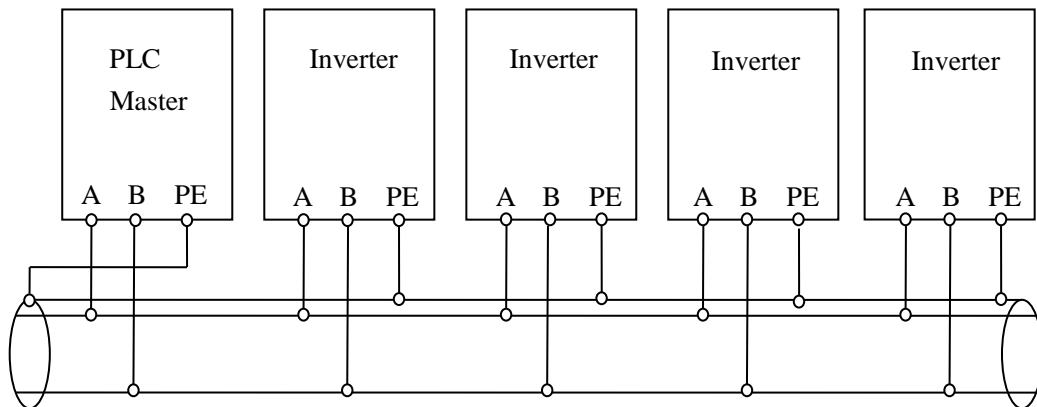
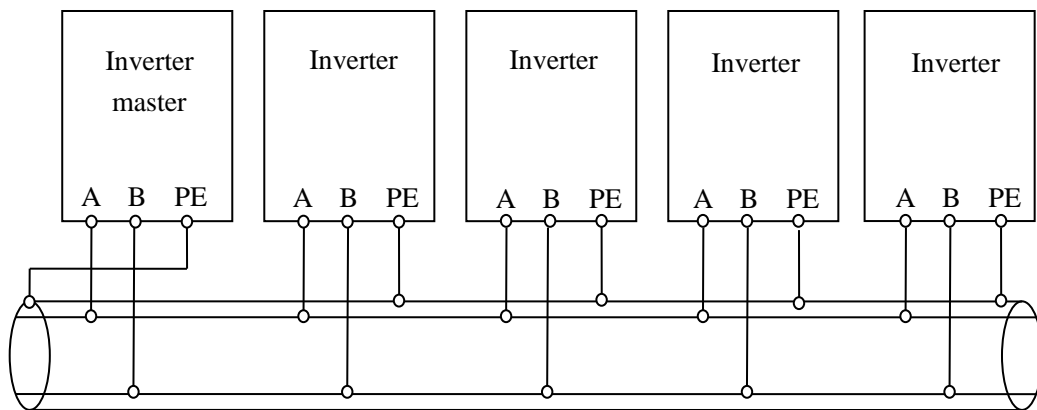

Fig. 2-10 Connection of PLC and inverters
Fig. 2-11 Connection of several inverters
- Many inverters can be connected together through RS485, the PLC(or PC) is the host device, as shown in Fig.2-10; Also, you can select one inveter as host and the other inverters are slaves, as shown in Fig.2-11.The more inverters are connected, the communication system will be interfered seriously, the following wiring is recommended.